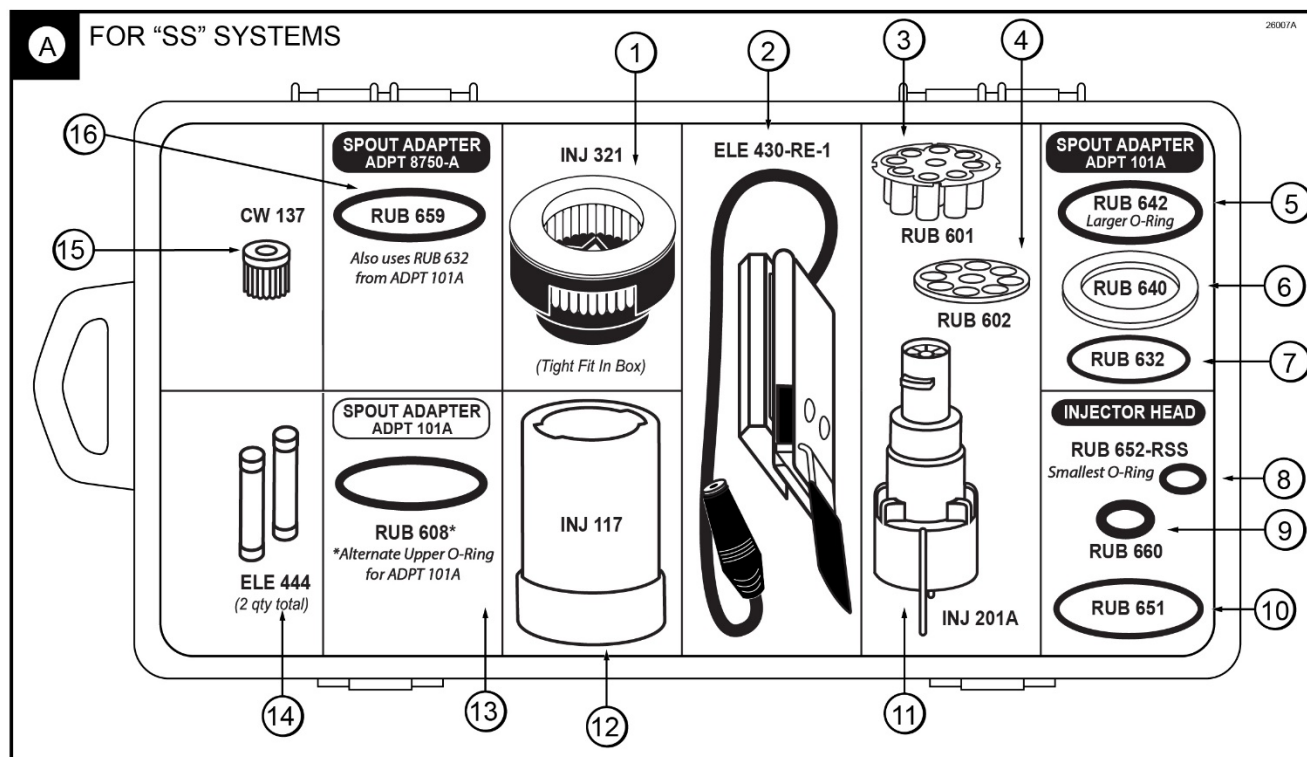

Figure 8A
**“SS” Spare Parts Kit (See Figure 8A)**